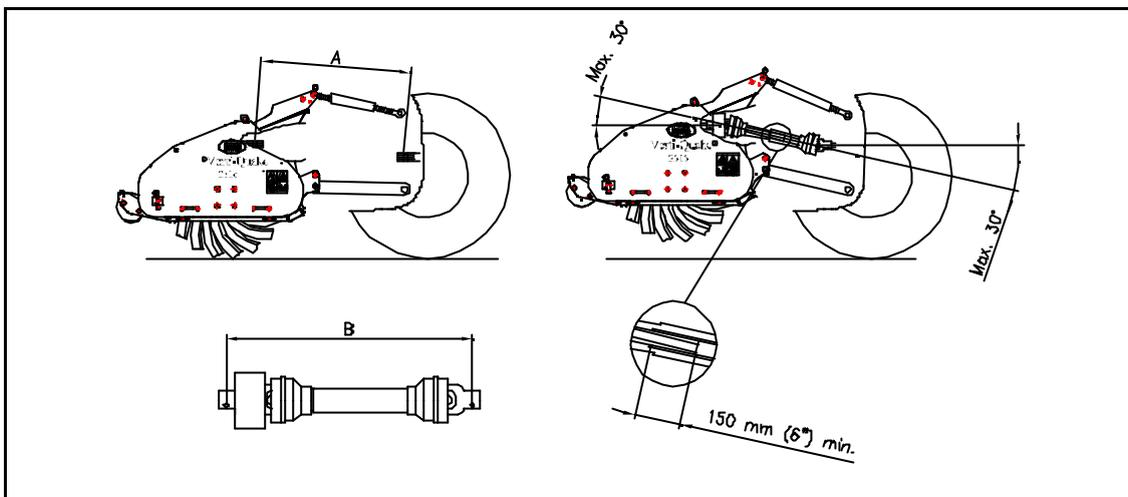

Fig. 10
4.1 LENGTH OF THE PTO (fig. 10)